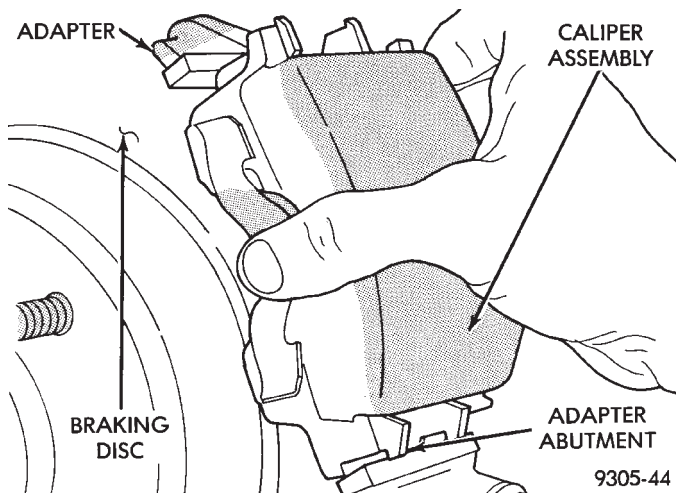

Fig. 59 Removing / Installing Caliper
(4) Remove caliper from adapter using the following procedure. First rotate top of caliper away from adapter. Then lift caliper assembly off bottom abutment of adapter to remove it from the vehicle (Fig. 59).
- (7) Carefully lower caliper and brake shoes over rotor and onto adapter, reversing the removal procedure (Fig. 59).